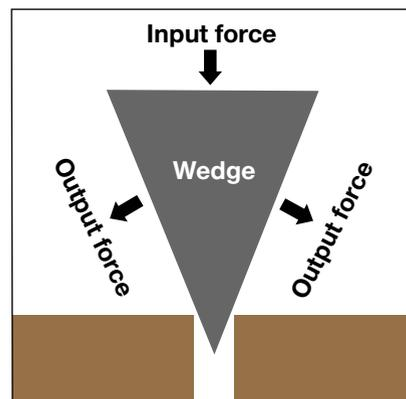

Fig. 3—Wedge
**Wedge:** A triangular-shaped tool, a wedge is a portable inclined plane. It functions by converting a force applied to its blunt end into forces perpendicular to its inclined surfaces. We use wedges to split logs, raise the corners of machines, and to keep the head on hammers (Fig. 3, Photo 4).